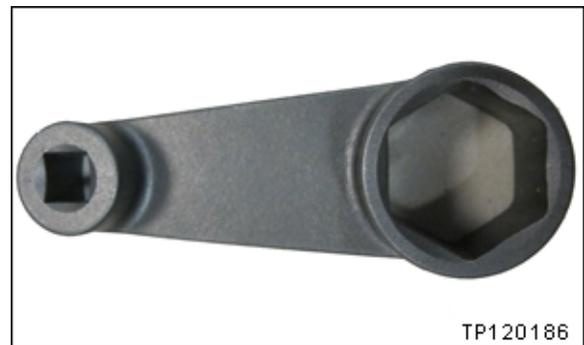

Figure 26
- The use of a 3 inch extension (special tool J-50991, Figure 26) requires that you use a calculated torque setting that matches the length of your torque wrench.
25. Attach special tool J-50991 (shown in Figure 26) to your torque wrench.